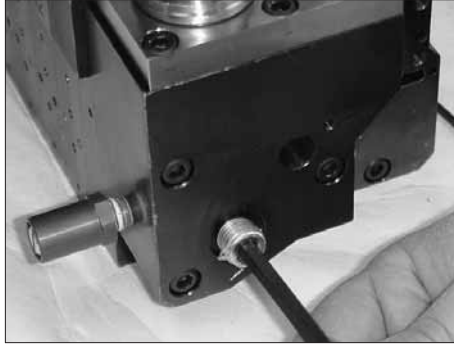

Figure 7-97 Moving the filter block plug
1. See Figure 7-97. Move the filter block plug to what will now be the inside surface of the filter block. The filter block has identical threaded holes on each side.